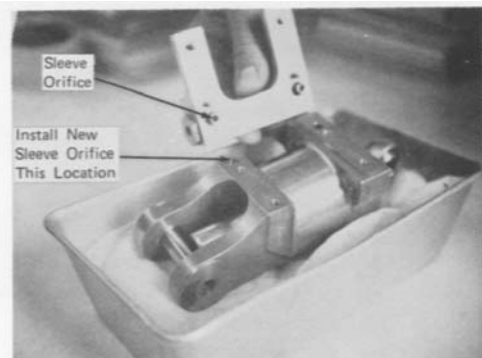

Figure 2
- c. Remove plug from reservoir end, remove the four reservoir retaining bolts, and lift reservoir from the damper housing. The position as described in paragraph (b) should be maintained so as not to allow air to enter the piston cavity. Oil loss from the reservoir will be replaced on assembly. It should be noted that discoloration of the silicone oil is common and should be disregarded. See Figure 2.
- d. After removal of the reservoir housing, the (2) orifice sleeves will be exposed. They should be carefully removed by hand along with the 0-ring. The new orifice sleeve and 0-ring should be flushed with silicone oil and carefully installed in the housing assembly. The orifice sleeve should be topped off with silicone oil.